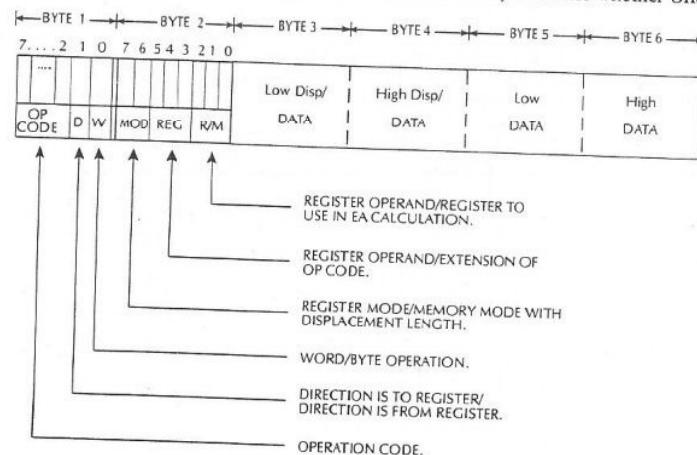

FIGURE 3.5 8086 Instruction format.
The 8086 instruction sizes vary from one to six bytes. The general 8086 instruction format is shown in Figure 3.5. The op code, register direction bit (D) and data size bit (W) in byte 1 are defined by Intel as follows:
- Register Direction bit (D) occupies one bit. It defines whether the register operand in byte 2 is the source or destination operand. D = 1 specifies that the register operand is the destination operand; on the other hand, D = 0 indicates that the register is a source operand.
- Data size bit (W) defines whether the operation to be performed is on 8- or 16-bit data. W = 0 indicates 8-bit operation while W = 1 specifies 16-bit operation.